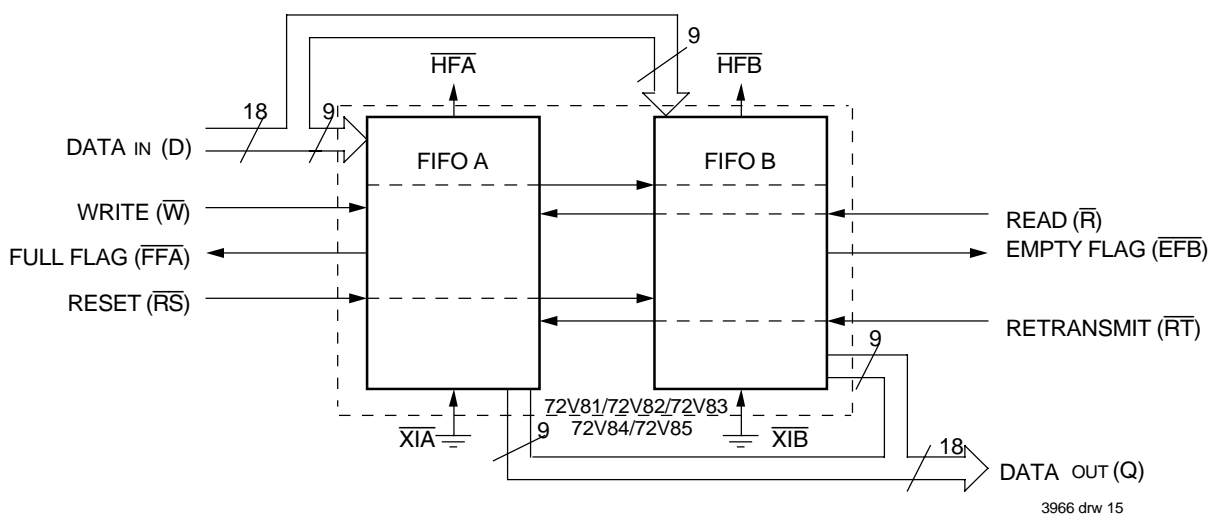

Figure 13. Block Diagram of One 512 x 18, 1,024 x 18, 2,048 x 18, 4,096 x 18 and 8,192 x 18 FIFO Memory Used in Width Expansion Mode
Word width may be increased simply by connecting the corresponding input control signals of multiple FIFOs. Status flags (\overline{EF} , \overline{FF} and \overline{HF}) can be detected from any one FIFO. Figure 13 demonstrates an 18-bit word width by using the two FIFOs contained in the IDT72V81/72V82/72V83/72V84/72V85s. Any word width can be attained by adding FIFOs (Figure 13).
2. For Flag detection see section on Width Expansion and Figure 13.